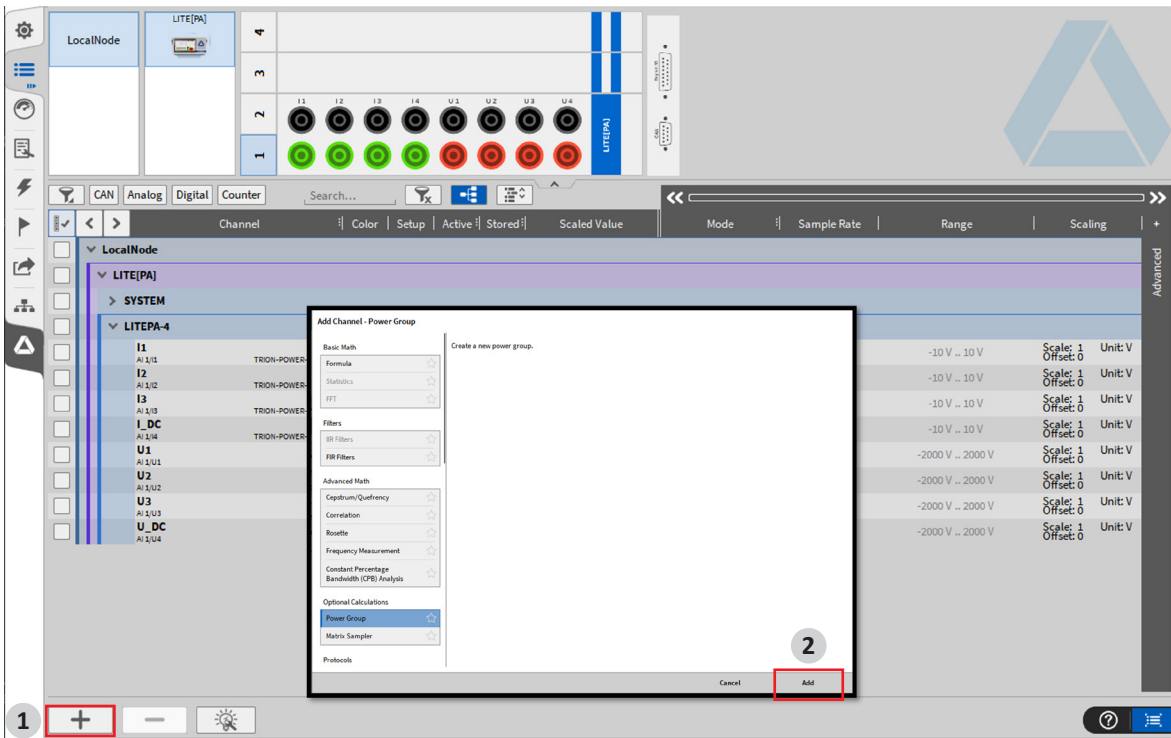

Fig. 17: Create a Power Group without channel pre-selection (1)
1. Click on the “+” button on the bottom left on the, see ① in Fig. 17.
2. Choose the Power Group tab in the optional calculations and click “add”, see ② Fig. 17.